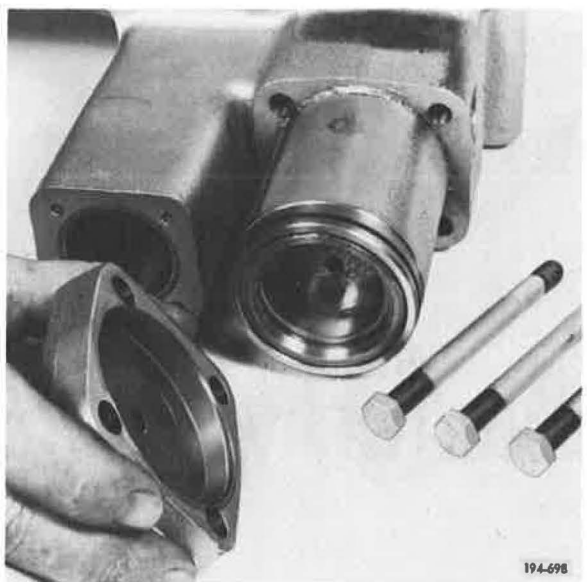

Figure 178. Removing Cover
10. Remove Hi/Direct shift cover. See Figure 178.